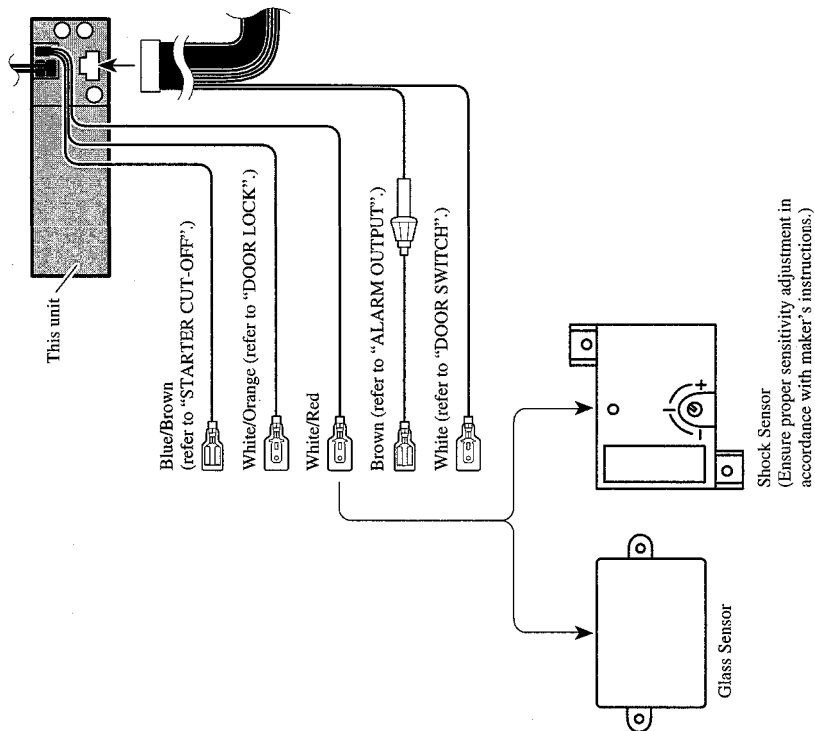

Fig. 34
- White/Red (ALARM SENSOR)** (Fig. 34)